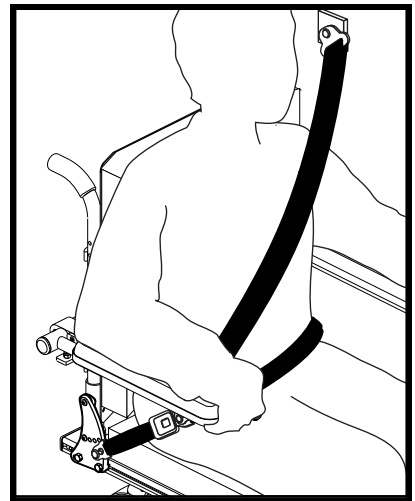

Figure 9. Upper-torso Belt Placement
- Place the upper-torso belt across the middle of the shoulder and the center of the chest, and connect to the pelvic belt near the hip of the power chair occupant. **See figure 9.**